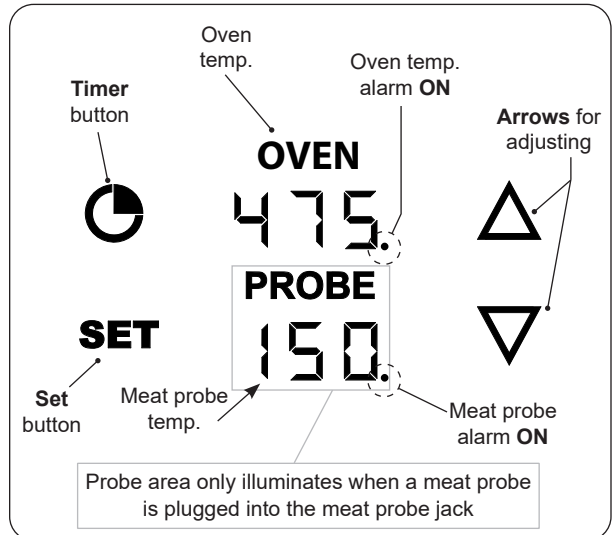

Fig. 39-2 Orientation (default screen)
Read the following sections completely regarding thermometer operation. Refer to Fig. 39-2 for thermometer orientation and button locations.
**Press thermometer power switch to turn ON:** The digital thermometer display and touch-controls will illuminate. See Fig. 39-2. This is the “**default screen**”.